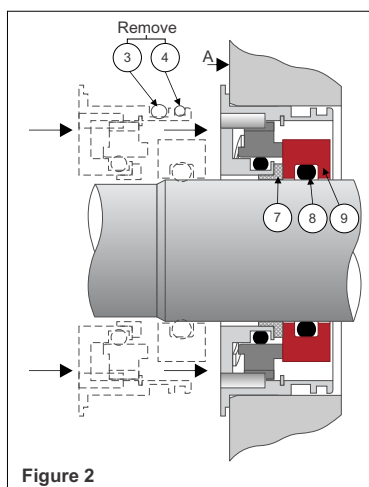

Figure 2
- With the setting ring (item 7) installed into the stationary assembly and the stationary o-rings (items 3 & 4) removed, assemble the stationary unit onto the shaft allowing the rotary and stationary faces to make contact. Note that this must be done slowly and carefully to avoid damaging the seal faces.
- Carefully push the stationary assembly into the bearing housing until the flange of the stationary housing makes contact with the bearing housing (Surface A - **Figure 2**).